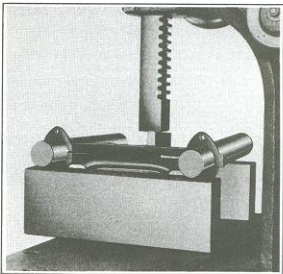

Figure 2-49. Correcting Bracket Bow
1. Insert the two 1-5/8 in. x 12 in. bars in fork bracket and secure with two clamping studs. Sometimes the bracket is so badly bent that the bars cannot be inserted. In this case, press the bars into place with an arbor press, then press on the front edge of bracket to correct the "bow" distortion as shown in Figure 2-49.
Reference to vertical and horizontal centerlines applies to bracket and fork stem as positioned on arbor press (see Figure 2-49).